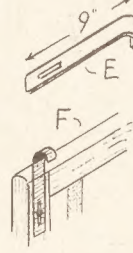

Fig. 4—Metal hangers
To support the bed rest, a pair of metal fitments will be needed. These can be bent up from $\frac{1}{2}$ in. by $\frac{3}{4}$ in. metal bar to the shape seen at (E) in Fig. 4. Allowing a little extra for the bend at the top, a total length of 11ins. for each will be about enough. The curved top parts should fit over the head of the bed, as seen in the general view of the completed article.